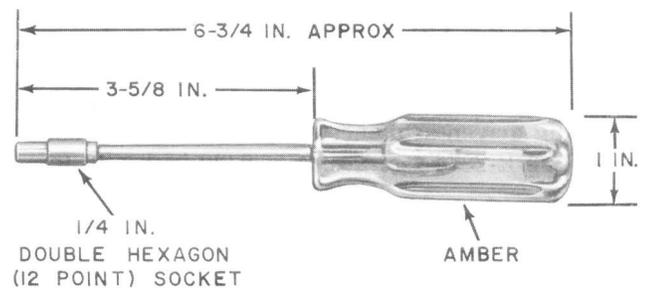

Fig. 12—KS-20476, L1 or Utica V-780 Nut Driver and Socket
2.13 KS-20476, L1: The KS-20476, L1 tool (Fig. 12) (Mfr Disc.) consists of a removable 12-point socket wrench attached to a metal shaft having a plastic grip. The KS-20476, L1 tool was used for servicing CA through CF small crossbar switches.
2.14 Utica V-780: The Utica V-780, 1/4-inch nut driver (Fig. 12) has a metal shaft with a plastic grip and is equipped with a Utica V-8, 1/4-inch, 12-point socket. The Utica nut driver is used for servicing CA through CF small crossbar switches.